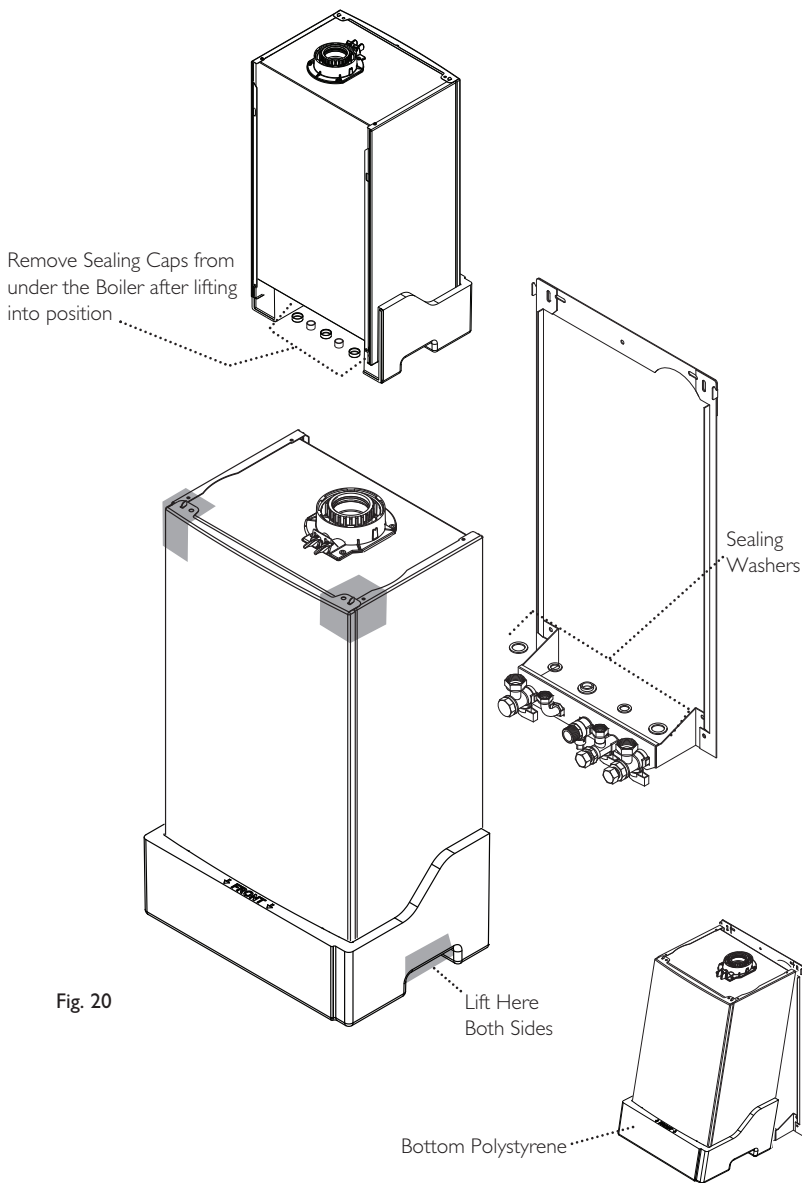

Fig. 20
9.3 Fitting The Boiler (Fig. 20)